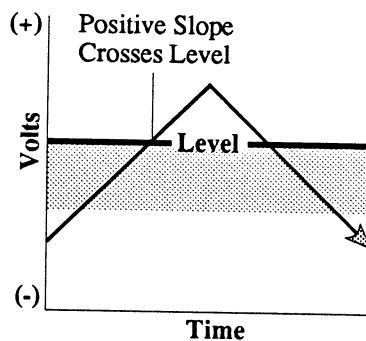

Figure 3 - The signal must pass through the entire Sensitivity window and cross the threshold Level.
4. The signal must cross the selected trigger Level with the proper slope (Figure 3 illustrates this using positive slope triggering as an example). See page 13-8.